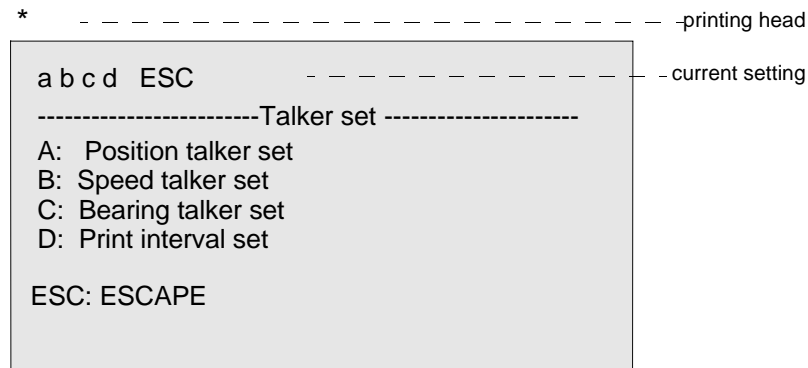

Figure 17. Main Menu Printout
- 48. After the ENT key (figure 3, item 4) is pressed to register navigation data to be printed, the menu is printed (figure 17).